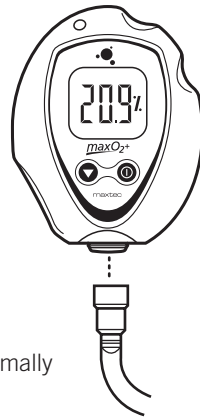

FIGURE 2
1. Connect the Tygon tubing to the bottom of the analyzer by threading the barbed adapter onto the oxygen sensor. (figure 2)